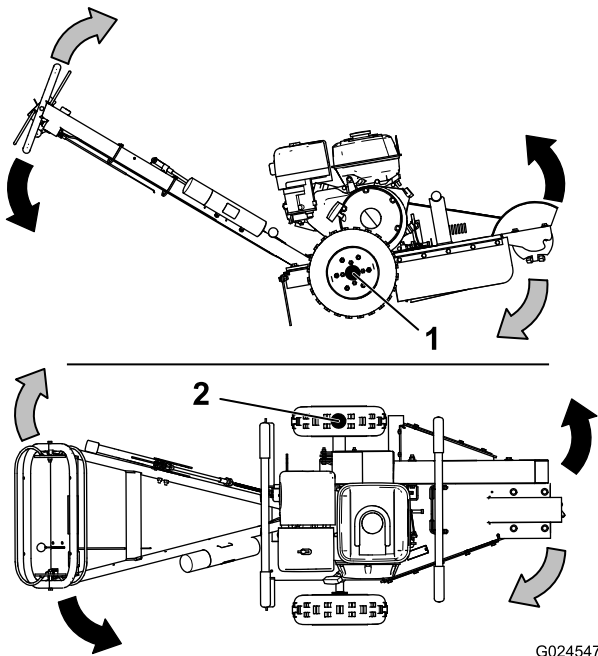
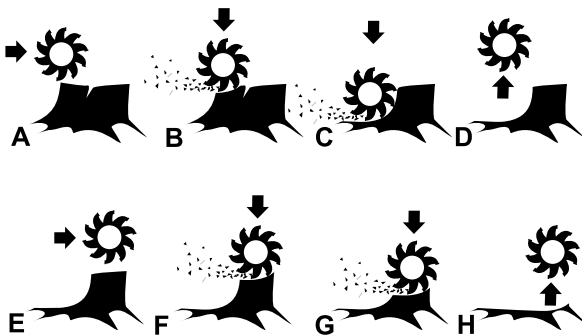

Figure 8
Figure 9
2. Push the handle down enough to raise the cutting wheel off the ground (Figure 8).
5. Swing the cutting wheel to one side (Figure 8), then lower it approximately 1 to 2.5 cm (1/2 to 1 inch) into the front-top corner of the stump. Swing the cutting wheel back and forth, lowering the cutting wheel approximately 1 to 2.5 cm (1/2 to 1 inch) before each sweep, until you have removed the front portion of the stump to ground level (A through D in Figure 9).
7. Repeat steps 5 and 6 until you have completely removed the stump (E through H in Figure 9).